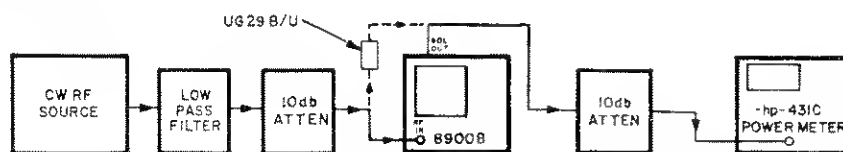

Figure 5-1. Path Attenuation Check
1. Connect equipment as shown in Figure 5-1.